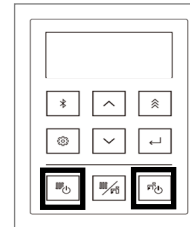

Figure 150
2. Turn off DHW and CH buttons on the controller (Figure 150).